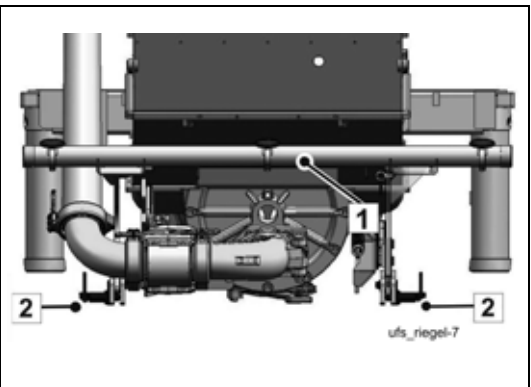

Fig. 60 Lock position (2)
- Release both locks (2) on the underride protection (**Fig. 60**).